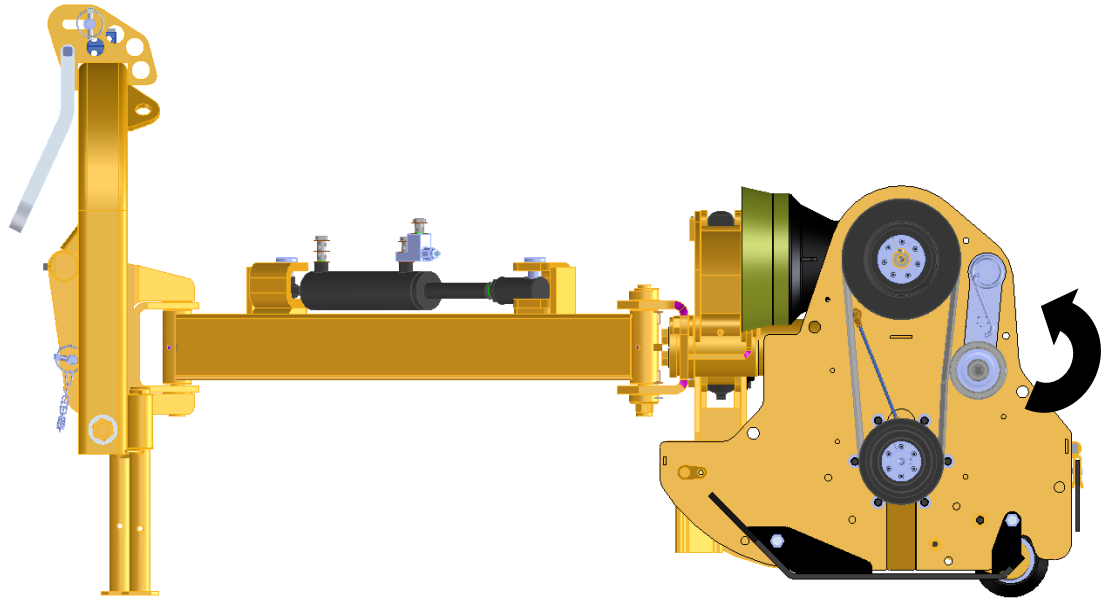

Figure 50
2. After replacing the spring or any other damaged part, take the tensioning unit (figure 49) and place it on the side of the mulcher, inserting the hex bolt 30 as shown in figure 50;